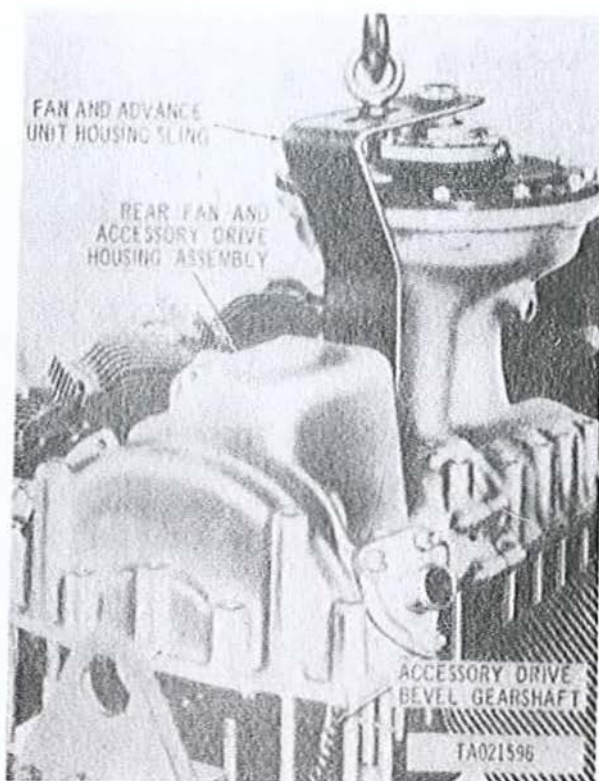

Figure 3-322. Installing rear fan and accessory drive housing using fan and advance unit housing sling.
c. Lower the rear fan and accessory drive housing (fig. 3-322) until holes in housing align with studs in mounting base. Continue lowering housing until accessory drive bevel gearshaft teeth engage with gear teeth of accessory drive gear. After rear fan and accessory drive housing are positioned remove slotted nut attaching housing sling to vertical drive shaft. Remove two self-locking nuts and flat washers (3, fig. 3-89) and remove sling.